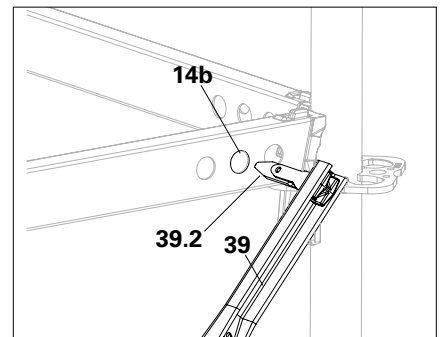

Fig. A5.02d
4. Insert the tilt finger into the hole of the upper horizontal ledger (**14b**). (Fig. A5.02d)